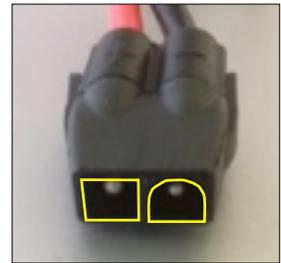

Fig 1. Female connector
This study area is defined by the 1,000 front feet of beach adjacent to the Center. The Center, which is managed by the Brevard County Environmentally Endangered Lands Program, hosts guided turtle walks during June and July and is located adjacent to the un-gated public beach access of Bonsteel park. An overlook located at the Center was used to deploy the cameras which were affixed using cable locks and oriented to point north and south, covering the entire 1,000 feet of beach (Figure 1).
Most of the equipment can be used as-is out of the box. The first thing to do is to drill a hole in the Pelican case and fit the UV filter into it as a window using silicon. Next we will need to modify the DC Coupler so it can be connected to the LiPo battery, don't be afraid. The DC coupler is made so that you can plug your camera into a wall outlet but we will be making some modifications/additions so that the battery can be hooked up instead. When you purchase the battery it comes with a generic connection point and a set of adapters that will attach to multiple connector types. One of these female adapters has a square hole for the positive terminal and a sort of barn door shape for the negative, this is the one that we will be using (Fig. 1). The next thing that we will need to do is modify the DC Coupler so that we can plug it into the battery. To do this we will need to crack open the coupler and solder on the male counterpart to the connector on the battery.
- 1.1. The battery has two connections, the female one that connects to the DC Coupler (Fig. 1) and another smaller white female connector with three openings. The latter ensures that the battery charges at the proper rate. The charger comes with a male adapter that is the same as one we attached to the DC Coupler (Fig. 2)